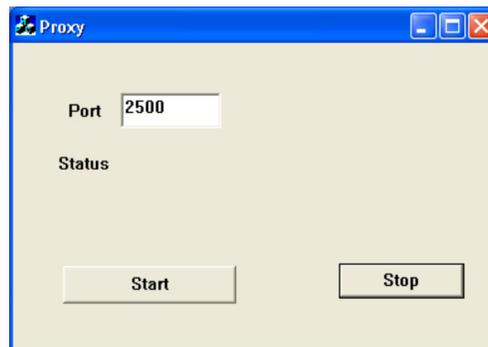

Figure 22: Proxy program about to start
4. After reading the PFC3D data file, a proxy program which manages communications between PFC3D and the CCFD solvers (Figure 22) is initiated.